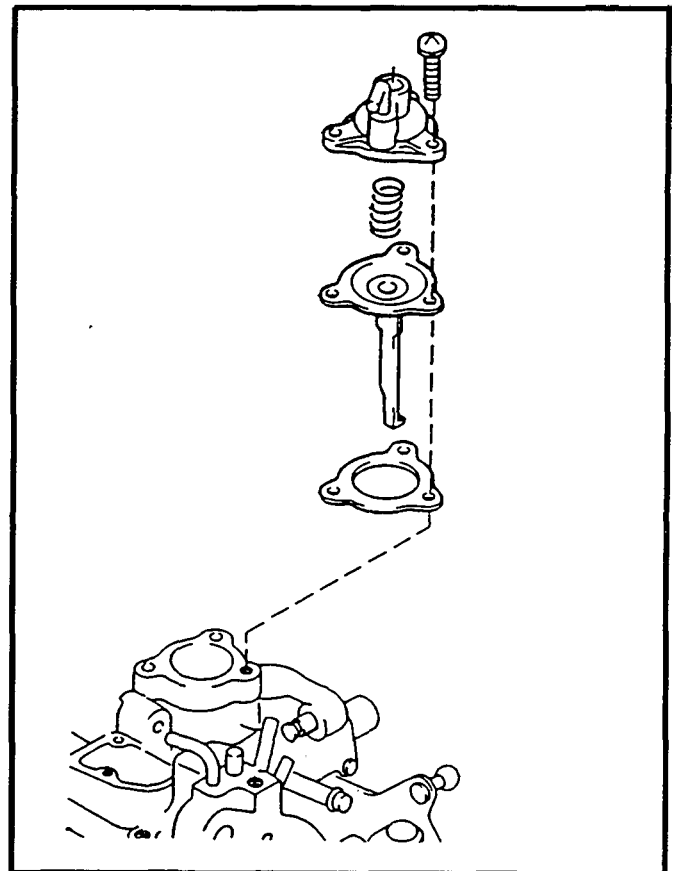

Figure 18.
1. Install the diaphragm with new gasket. Install the spring and cover with original hardware. See Figure 18.